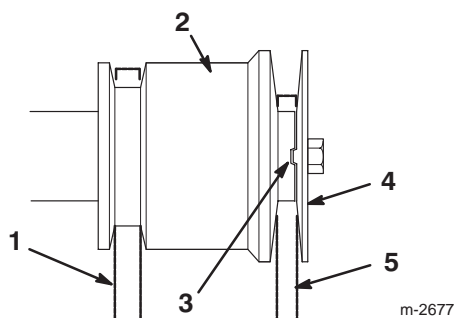

Figure 33
- Note:** Do not to pinch the traction drive belt (Fig. 33).
15. Install the engine pulley sheave, ensuring that the indexing rib in the engine pulley sheave aligns with the indexing notch in the engine pulley (Fig. 33).
16. Install the washer, lock washer, and crankshaft screw that secures the engine pulley sheave (Fig. 33).
Note: Do not pinch the auger/impeller drive belt (Fig. 33).
Note: Ensure that the indexing rib in the engine pulley sheave aligns with the indexing notch in the center engine pulley. Do not pinch the belt (Fig. 33).